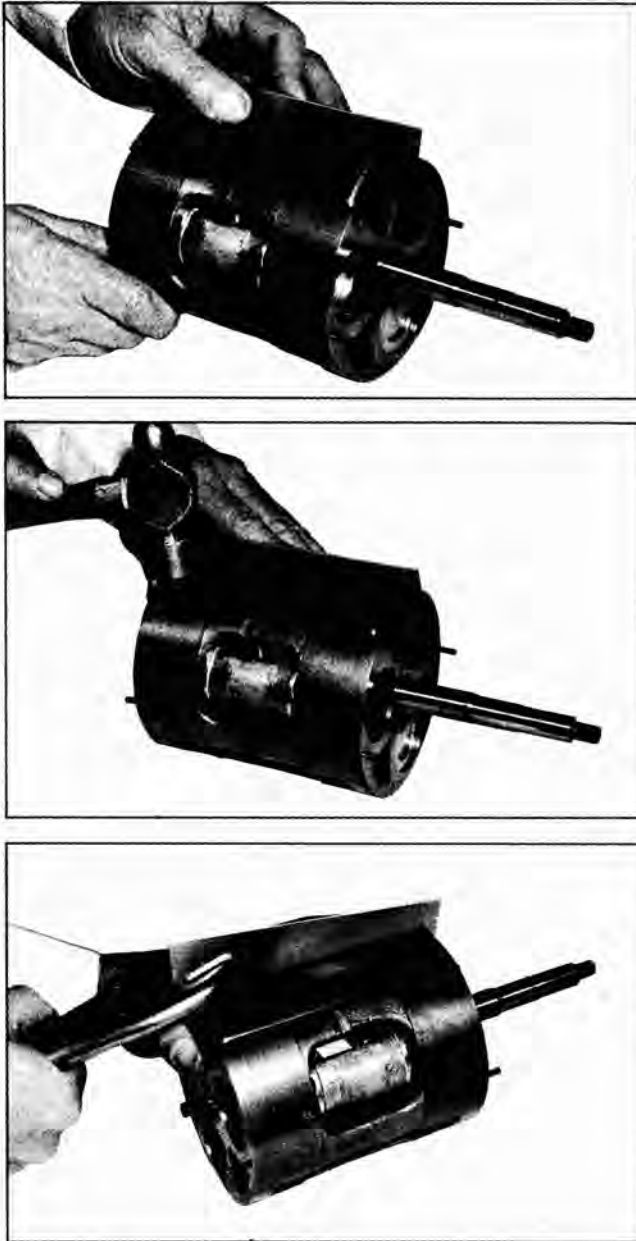

Fig. 5-90 Installing Suction Crossover Cover and Seal
c. Use J-9433 suction crossover cover seal installer as a "shoehorn", by placing it between the gasket on opposite side and the "dovetail" slot (Fig. 5-90).